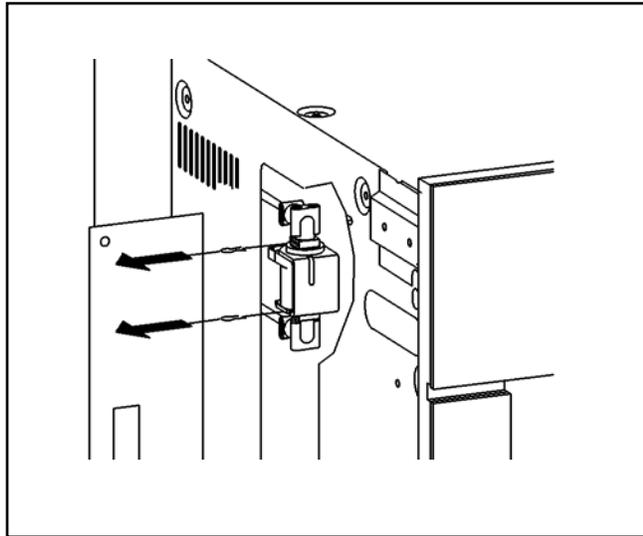

Figure 5-25: CVA4070 Solenoid Removal
3. Pull out the safety springs at the connection of the steam solenoid (Figure 5-25).